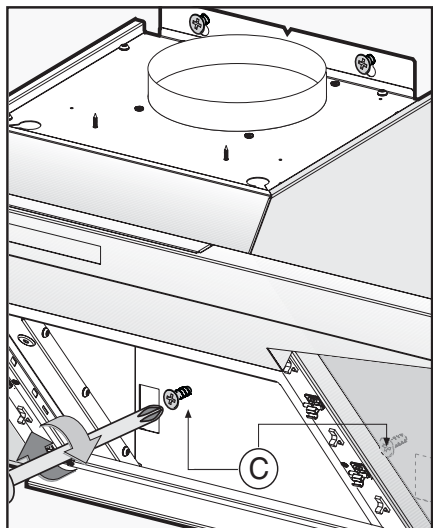

Fig.8
- Once the adjustment has been completed, fix the hood using the 2 screws **C** (**Fig.8**).